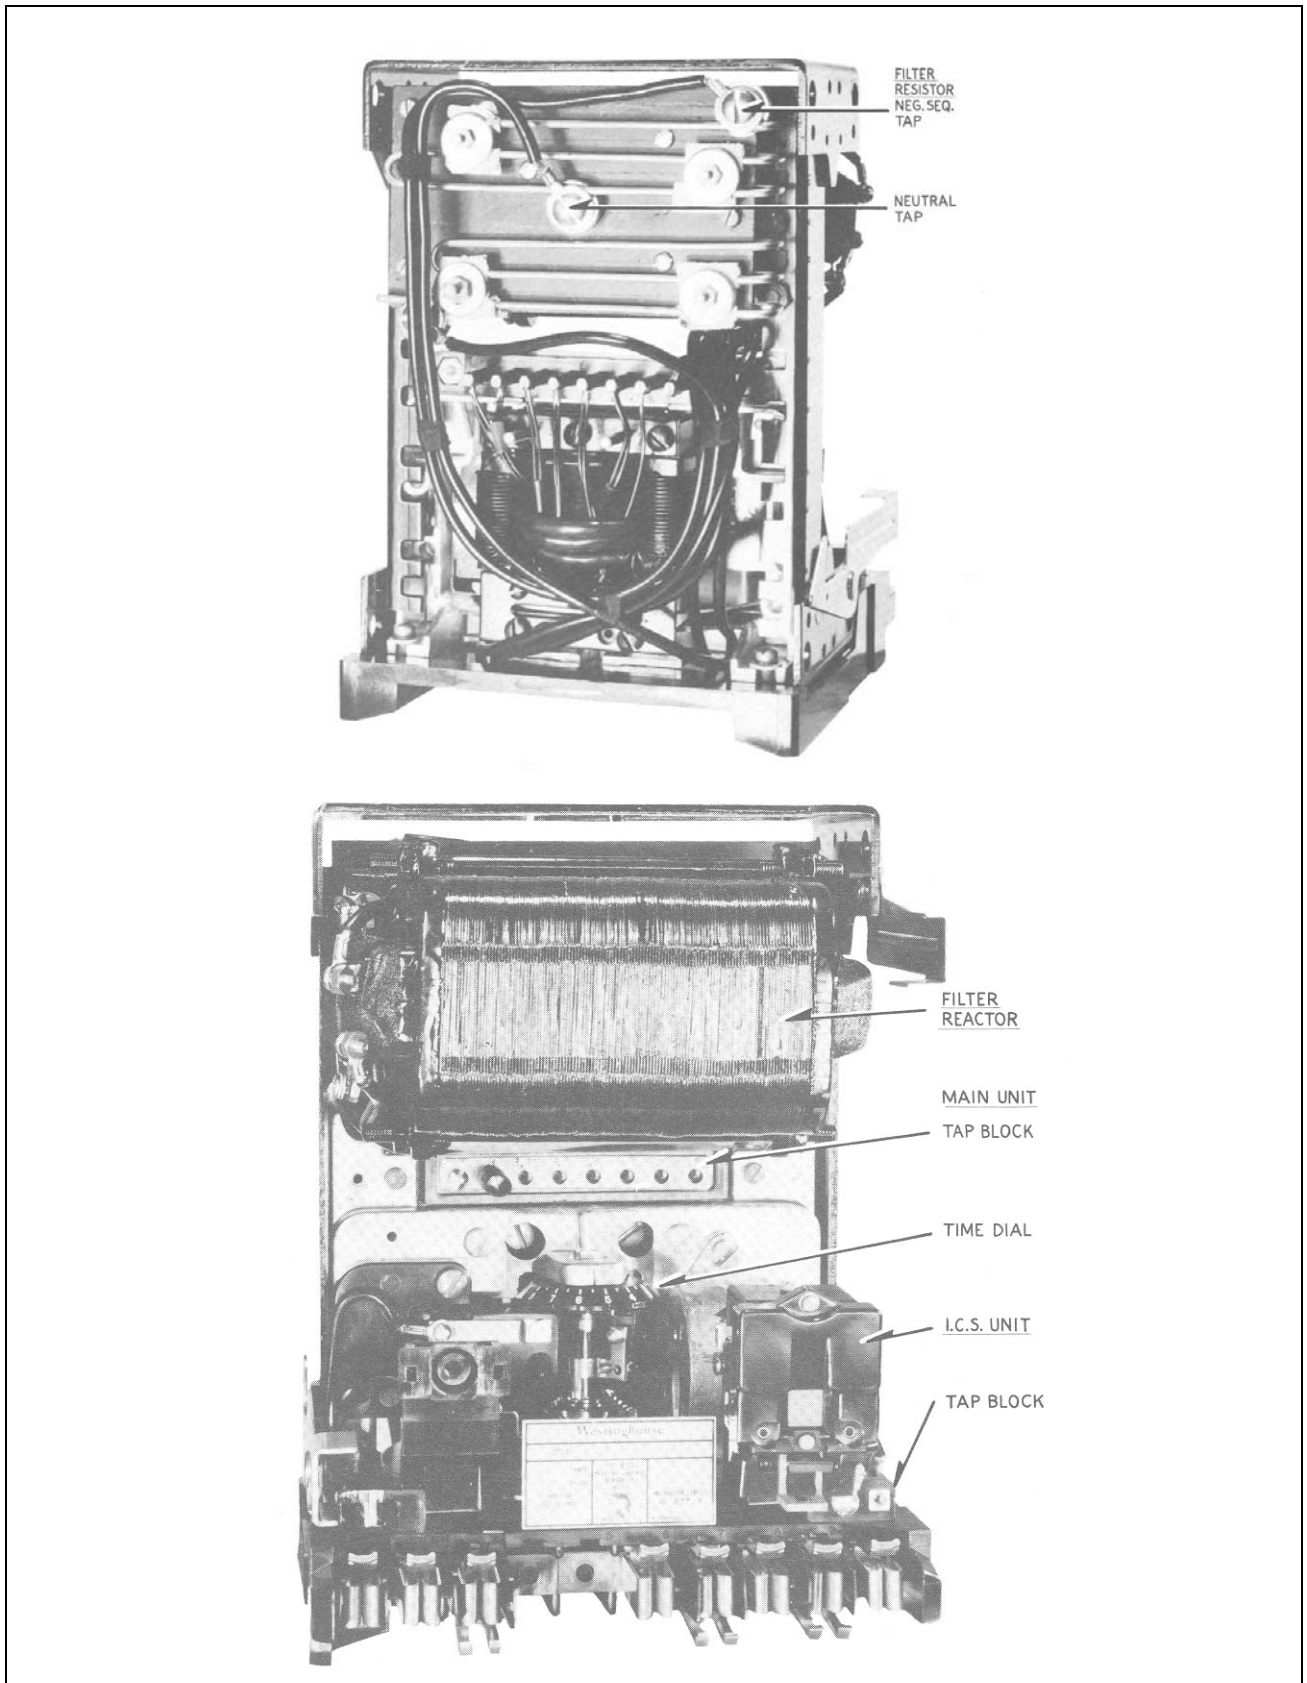
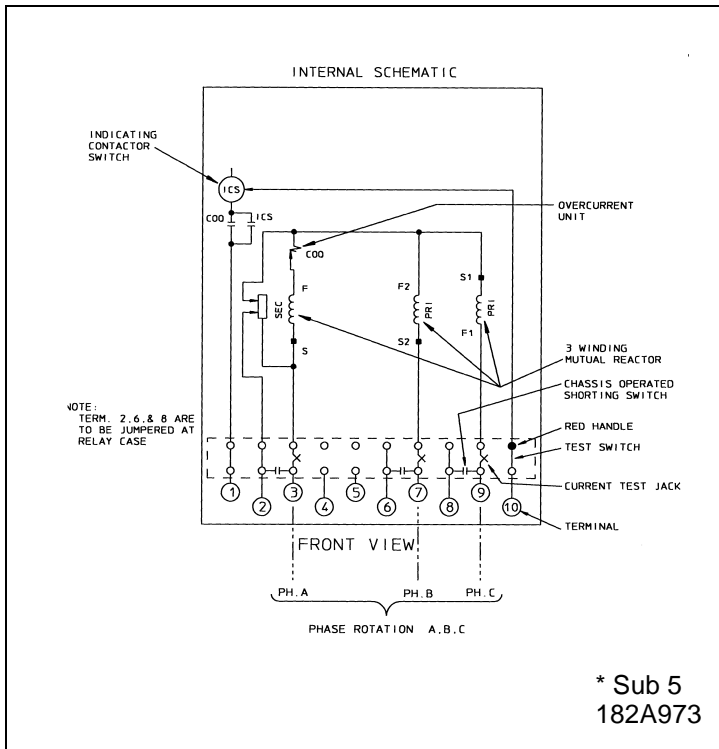
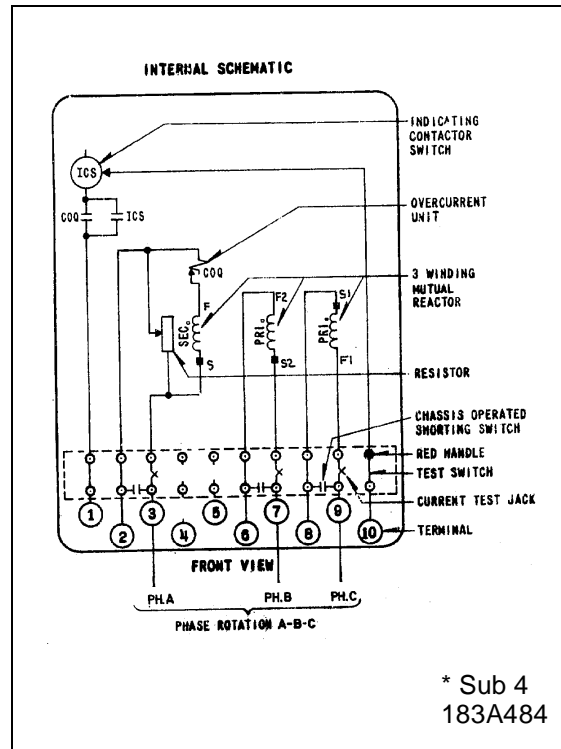

Figure 1. Type COQ Relay – Without Case.
Figure 2. Internal Schematic of the Type COQ Relay in the FT 21 Case – Neutral Formed in Relay
Figure 3. Internal Schematic of the Type COQ Relay in the FT 21 Case – For Forming Neutral External to Relay
The COQ is used to prevent a synchronous machine from being damaged due to negative sequence fault currents. Two varieties are available, as shown in Figures 2 and 3, depending upon whether the neutral can be formed at the COQ or whether the neutral must be formed elsewhere. (See external schematic, Figures 8 and 9.)
- e. Now measure the voltage across the resistor. Adjust top filter resistor position until this voltage is 1.73 times the reading from (d) above. For relays wired per Figure 2 connect the voltmeter to switch jaw 3 and to the top filter resistor screw connection (see Figure 1). For relays wired per Figure 3 connect voltmeter across switch jaws 2 and 3.
To eliminate zero sequence response (relays wired per Figure 2 only), remove tap screw, and connect per Figure 10: Apply $I_X = 5$ amperes; $I_Y = 10$ amperes. Measure voltage from terminal 3 to top filter resistor screw connection (see Figure 1). Adjust the neutral filter resistor tap until measured voltage is zero.